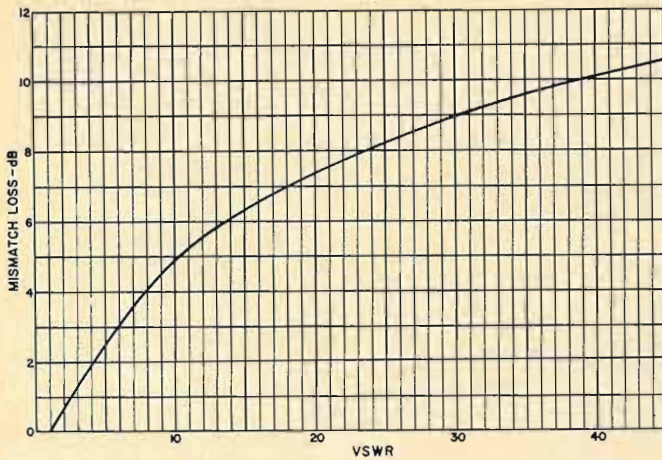

Fig. 2. This graph is used to relate v.s.w.r. and mismatch loss.
Fig. 2. (A) A potentiometer whose deviation is measured over its "active electrical length", or "end points" (B), is independently linear. The reference line of a zero-based linear pot (C) passes through 0% voltage point at 0% rotation.
A widely used method of evaluating the impedance match is to observe the voltage standing wave ratio (v.s.w.r.) on a transmission line. The line is terminated by an antenna at one end and excited by a generator at the other end. Fig. 2 shows the relationship between the v.s.w.r. and mismatch loss in decibels.
Fig. 2 shows the first of several curve families, plotted on an oscilloscope with the curve tracer to be described later. They will familiarize you with how to interpret such displays. The display in Fig. 2 is a family of curves for a "textbook" transistor—a nearly perfect example of ideal characteristics in a transistor. This particular transistor happened to be an expensive one rescued from a piece of surplus equipment. The curves show that it would do quite well as a large-signal audio amplifier. Even with transistors as good as this, it must be remembered that when two transistors
Notice how flat (horizontal) the curves are in Fig. 2. Since collector resistance equals the change in collector voltage divided by the change in collector current, a wide change of voltage without more than a small change in current means a transistor has high collector resistance. All the curves in Fig. 2 change very little in current (Y axis) over the entire range of collector voltage (X axis); therefore, you know this particular transistor has an extremely high collector resistance.
It isn't too difficult to build an instrument that will display the families of curves shown in Figs. 2 through 9. The schematic diagram of one built by the author is shown in Fig. 10. The instrument consists of two parts, a circuit to sweep the collector voltage and a stepper for the base current. Each of these units works independently of the other and are not synchronized.